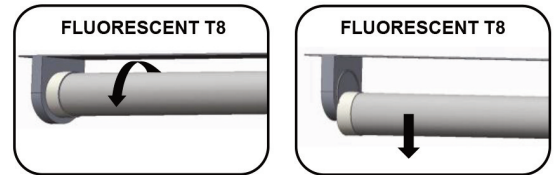

Fig. 2
3. Remove the existing fluorescent lamps from the luminaire. Verify the fluorescent tube type is listed on the label of LED T8 DirectFit lamp. **(Fig. 2)**